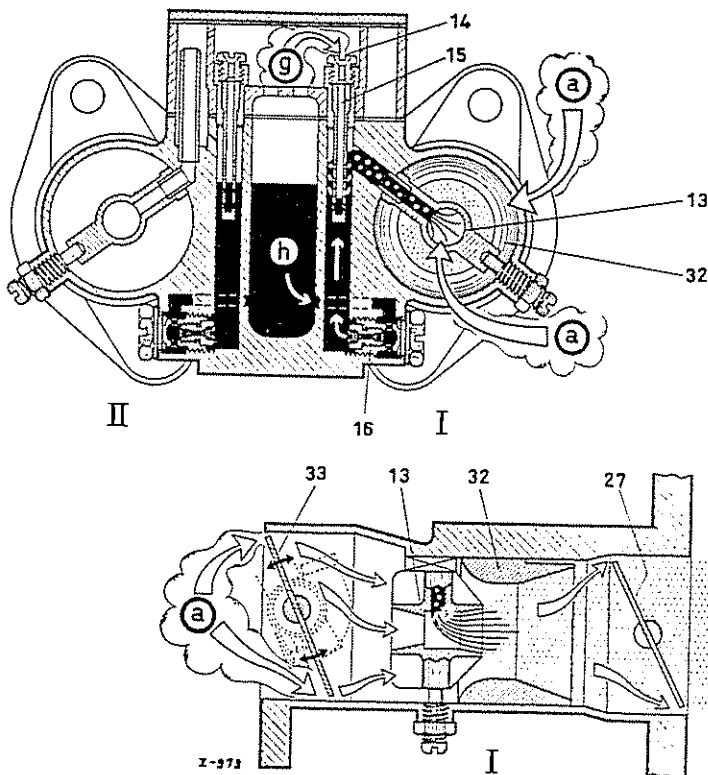

Fig. 07-0/38
d) When the starter mechanism is inoperative, there must be a clearance of approx. 0.4 mm between the adjusting screw (39) on the throttle valve lever and the relay lever (41) when the carburetor linkage is in the idle position. The tension spring must press the relay lever against the cam plate of the choke valve lever (see Fig. 07-0/35).
When the engine is being started, the closed choke valve (33) produces an effective vacuum in the diffuser (13) of stage I, so that sufficient fuel is drawn from the main supply system to provide a mixture rich enough to start the engine cold. When the engine has started, the pressure flow regulates the opening of the choke valve (33) against the pressure of the coil spring, with the result that the combustion air necessary for the start mixture can enter (Fig. 07-0/38).